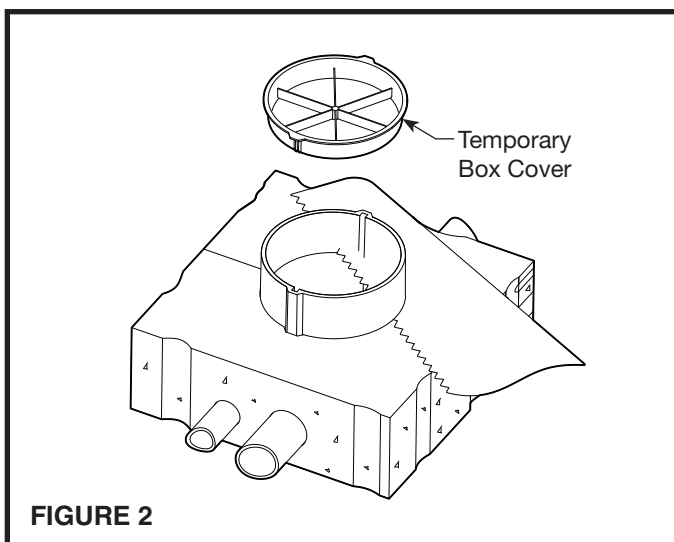

FIGURE 2
- 1.2 Remove temporary cover from 68-HP or 68-HP-CI floor box. Use a saw to cut top of box flush to concrete floor surface (see Figure 2).
Box must be cut square and parallel with concrete floor surface (see Figure 2).